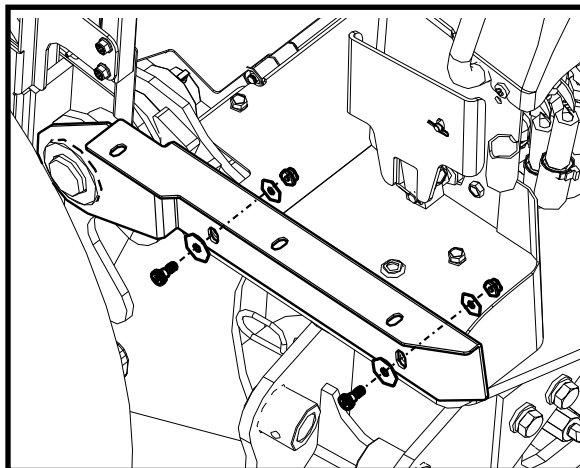

Figure 18.1: Backhoe Cab Footers
18.1 Fasten the backhoe cab footers to the backhoe floor board sides (see Figure 18.1, outriggers hidden for clarity). Place the 3/8 fender washer over the shoulder screw, then sandwich the 5/16 fender washer between the backhoe cab footers and the backhoe floor board sides. The new footers should then be able to float a little side to side. Tighten hardware.